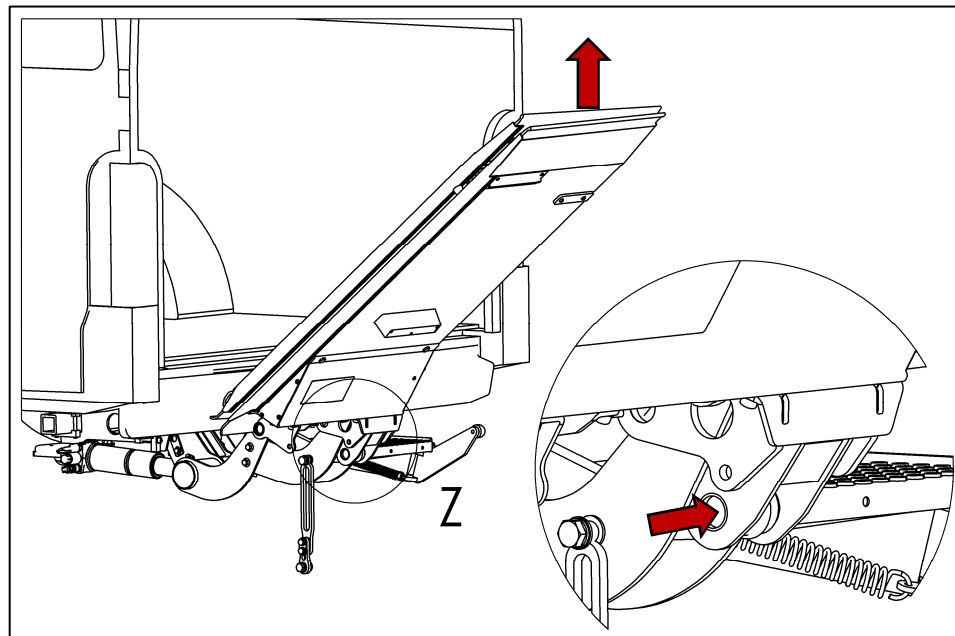

Fig. 54
- Lift the tip of the platform until the closing-rod bearing point (attachment point for the closing rod) is aligned with the swing-arm bearing point (bottom attachment point on the platform) (see Fig. 54).